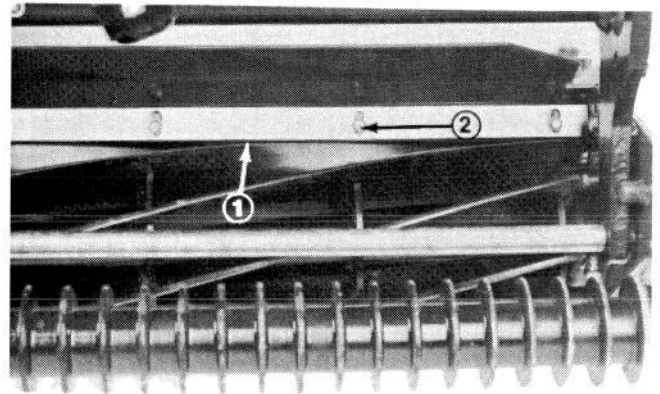

Figure 5
1. Loosen screws securing the top bar (Fig. 5). Insert a 0.060-inch feeler gauge between the top of the reel and the bar and tighten the screws (Fig. 5). Assure the bar and reel are equal distance apart across the complete reel.